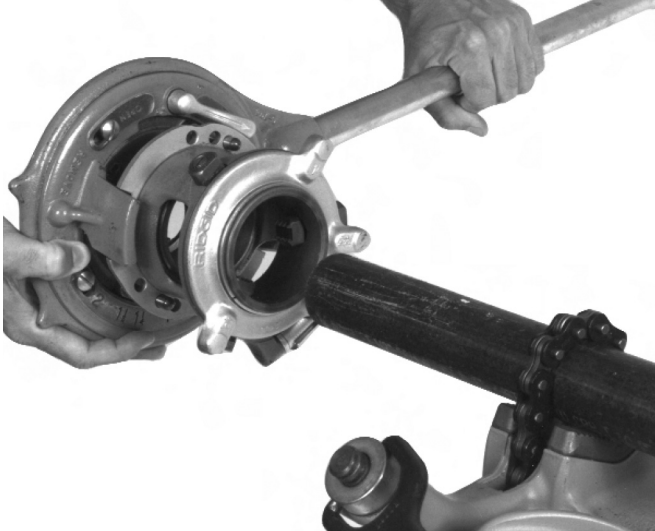

Figure 5 – Sliding Threader Onto Pipe
- Turn release cam lever to the “closed” position. Slide threader on the pipe with the workholder end first (*Figure 5*). Center end of pipe in the throat of the dies.